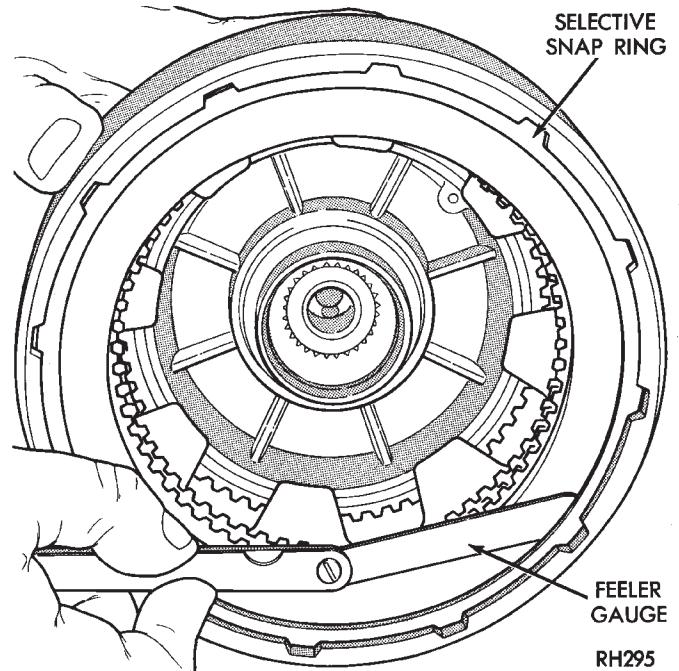

Fig. 78 Typical Method Of Checking Rear Clutch Pack Clearance
(14) Measure clutch pack clearance (Fig. 78). Clearance should be 0.64 - 1.14 mm (0.025 - 0.045 in.). If clearance is incorrect, steel plates, discs, snap ring and pressure plates may have to be changed.